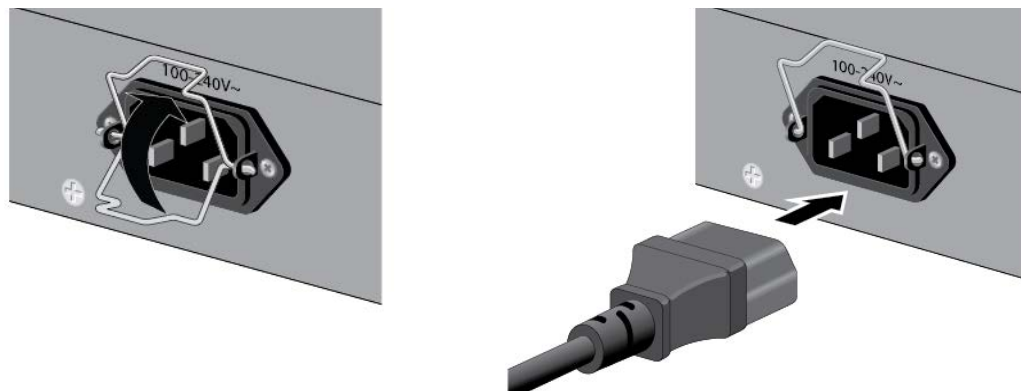

Figure 65. Connecting the AC Power Cord
2. Raise the retaining clip and connect the AC power cord to the AC power connector on the rear panel. Refer to Figure 65.